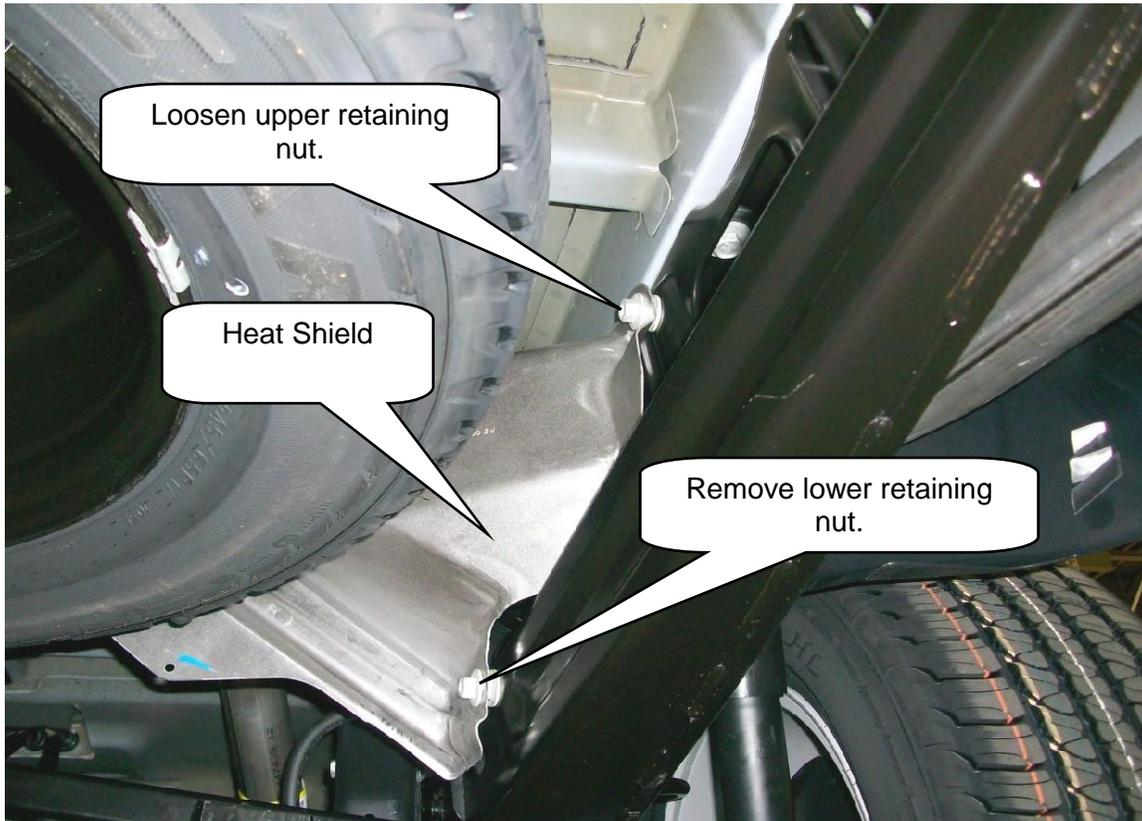

Figure 2
3. Loosen the upper heat shield nut and remove the lower heat shield nut (Fig 2).